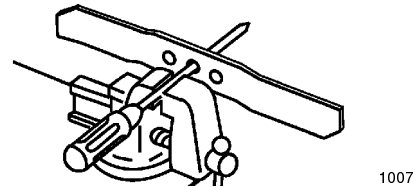

Figure 29
1. Check the balance of the blade by placing the center hole of the blade over a nail or screwdriver shank clamped horizontally in a vise (Fig. 29).